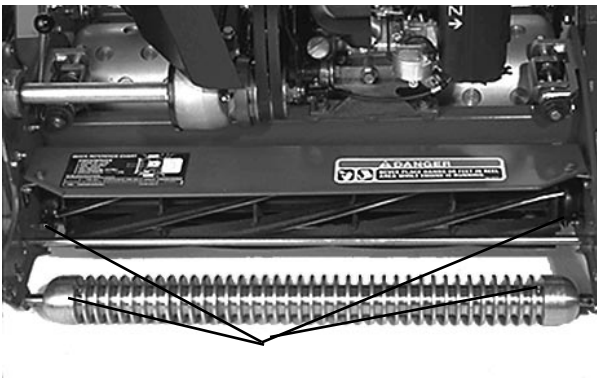
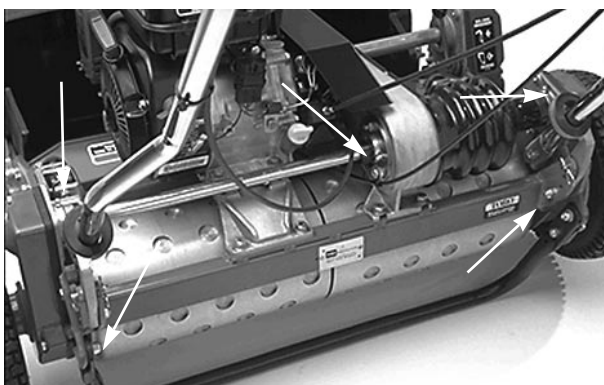

Figure 17
Figure 18
2. The grease fitting locations are: (2) on The front Roller (Fig. 17 ), (2) on the reel bearings (Fig. 17), (2) on Drum Axles (Fig. 18), (3) on Differential (Fig. 18), (2) on The reel Countershaft Bearings (Fig. 19) and (1) on Belt Idler Pivot (Fig. 20).